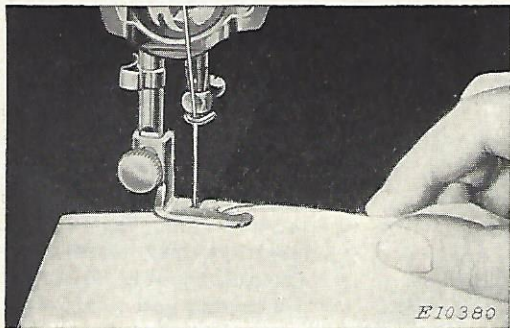

FIG. 18. STARTING A HEM AT THE EDGE
3. Draw the material toward you through the Hemmer, as shown in Fig. 18, at the same time making the second fold at the very edge. Continue to draw the material through the Hemmer until the edge is just under the needle. Place the upper and lower threads together under the Hemmer foot and assist in starting of the hem by slightly pulling the threads from the back as the machine is run.